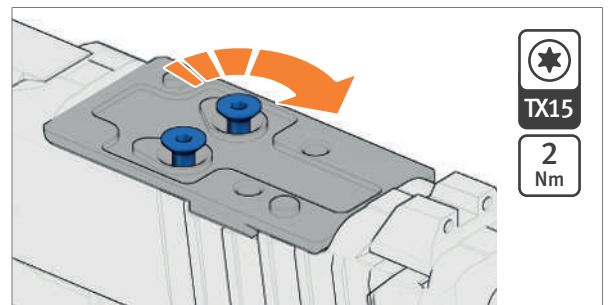

Fig. 43: Tighten screws
5. Tighten screws until the torque is reached (Fig. 43).